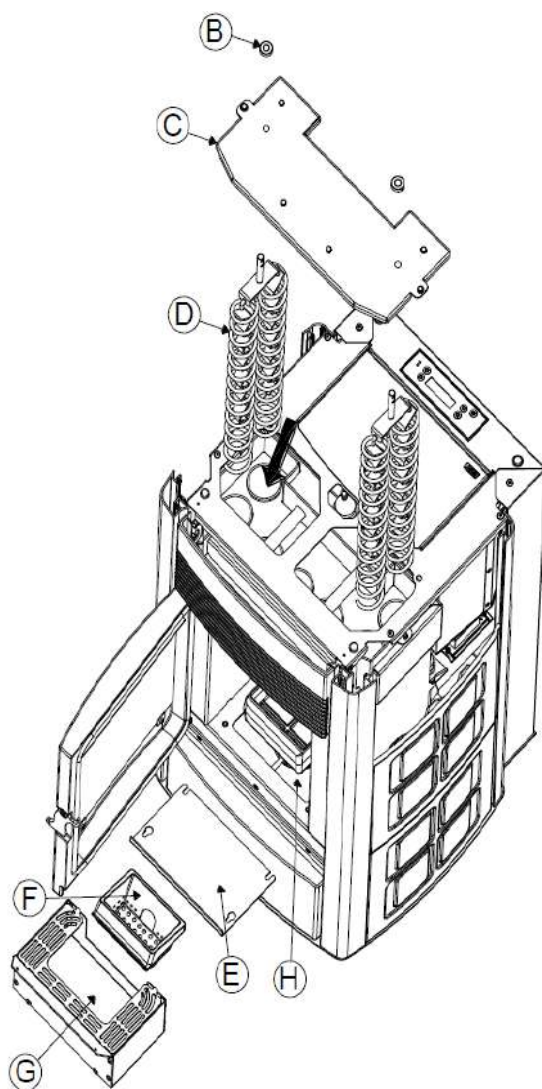

Figure 16 - Cleaning of the group of pipes, the turbulator and the lower compartment
CAUTION: It is advisable to clean the upper exchanger at the end of the season and possibly by a specialised approved technician in order to replace the seal under the plug "C". (fig.16).
**CAUTION:** It is advisable to clean the upper exchanger at the end of the season and possibly by a specialised approved technician in order to replace the seal under the plug "C". (Fig.16).